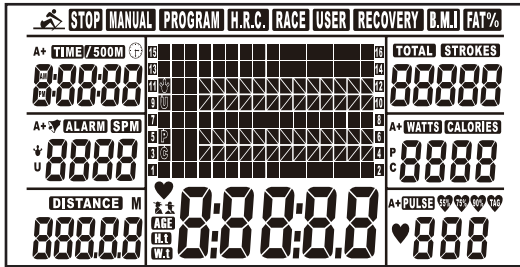

Fig.1
1. Install 2 AA batteries (included) and computer will beep for 2 seconds (Fig.1).